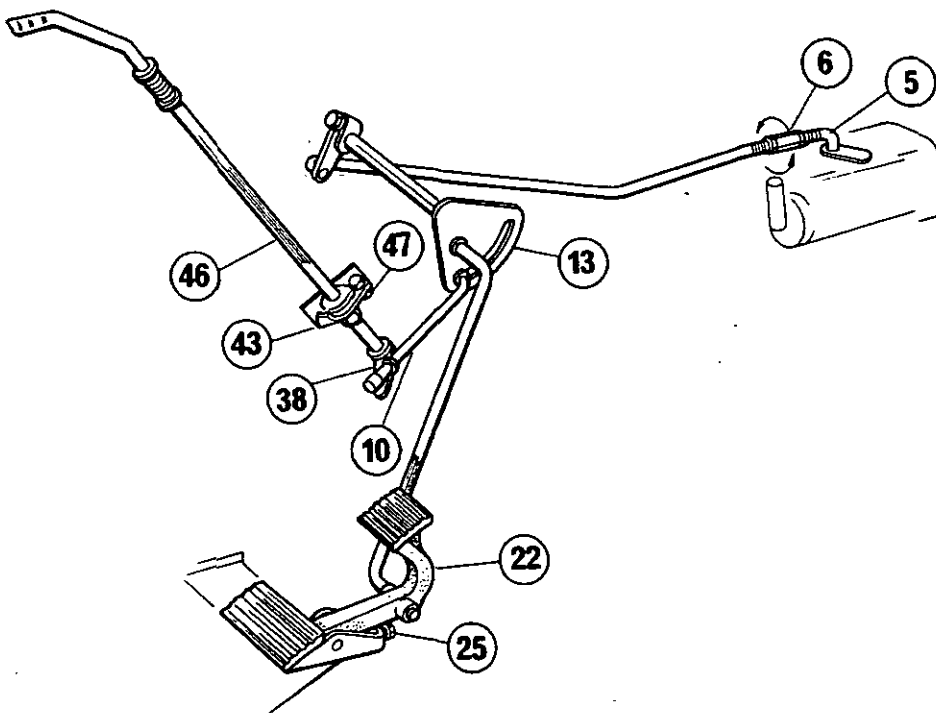

FIG. 8
1. Fig. 8. With the rod (5) disconnected from the injector pump, and the lever (38) slack on lever (46), fully depress the foot pedal (22).
2. With the foot pedal fully depressed, adjust the rod (5) until it freely assembles into the injector pump lever at 'full throttle' setting. Tension the linkage by giving half a turn to the connector (6) in the direction indicated. Tighten the locknuts on the rod (5).
3. Release the foot pedal (22) and with the bolt (47) slack, adjust the bolt (25) so that the engine idling speed is obtained. Without further movement of the bolt (25) tighten the locknut.
4. With the foot pedal (22) fully depressed, open the hand throttle (46) against the stop on the bracket (43). Adjust the lever (38) so that the link (10) just contacts the rear of the slot on the quadrant (13). Lock the lever (38) in this position.
5. Release the foot pedal (22) and fully close the hand throttle (46). Move the hand throttle (46) slowly towards the open throttle setting until the idling rev/min is just at the point of increase. At this position, adjust the bolt (47) to provide the hand throttle idling stop.